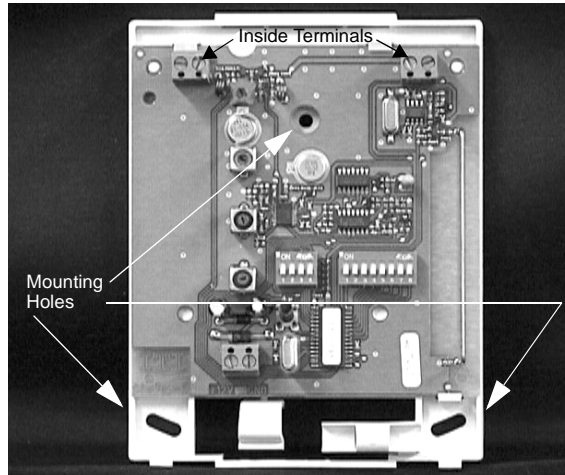

Figure 1. Mounting Hole and Antenna Locations
2. Place the translator on the wall at the desired location and mark the three mounting hole locations (see Figure 1).
4. Install the antennas (included) into the inside terminal of each antenna terminal block (see Figure 1).